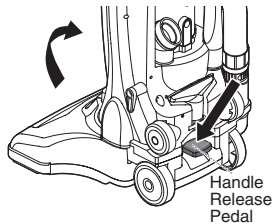

Fig. 9
- Push the handle release pedal. (Fig. 9)